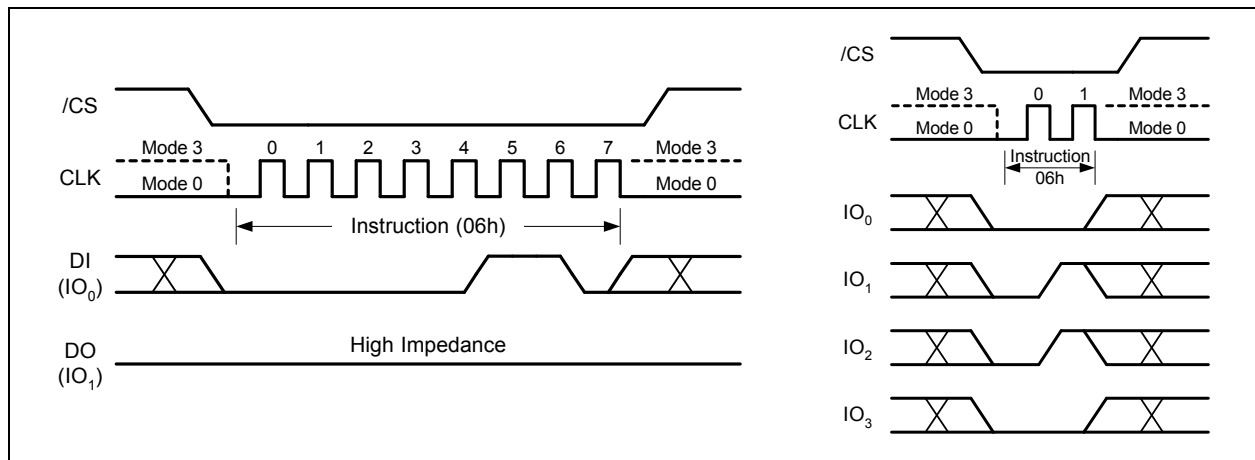

Figure 5. Write Enable Instruction for SPI Mode (left) or QPI Mode (right)
Instructions vary in length from a single byte to several bytes and may be followed by address bytes, data bytes, dummy bytes (don't care), and in some cases, a combination. Instructions are completed with the rising edge of edge /CS. Clock relative timing diagrams for each instruction are included in figures 5 through 42. All read instructions can be completed after any clocked bit. However, all instructions that Write, Program or Erase must complete on a byte boundary (/CS driven high after a full 8-bits have been clocked) otherwise the instruction will be ignored. This feature further protects the device from inadvertent writes. Additionally, while the memory is being programmed or erased, or when the Status Register is being written, all instructions except for Read Status Register will be ignored until the program or erase cycle has completed.
The Write Enable instruction (Figure 5) sets the Write Enable Latch (WEL) bit in the Status Register to a 1. The WEL bit must be set prior to every Page Program, Quad Page Program, Sector Erase, Block Erase, Chip Erase, Write Status Register and Erase/Program Security Registers instruction. The Write Enable instruction is entered by driving /CS low, shifting the instruction code “06h” into the Data Input (DI) pin on the rising edge of CLK, and then driving /CS high.